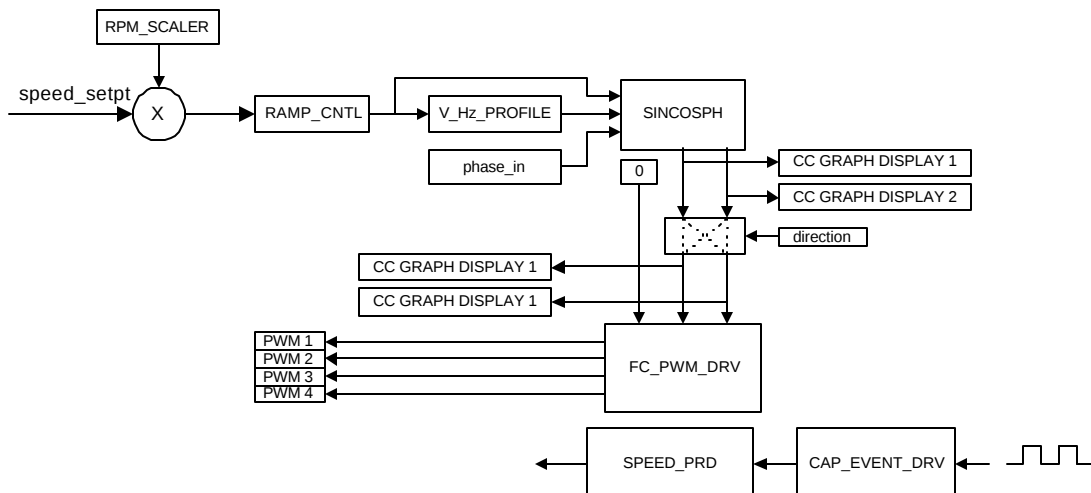

Figure 3 Phase 2a software block diagram for ACI1-1 system.
- The software block diagram of Phase-2a is shown in Figure 3.